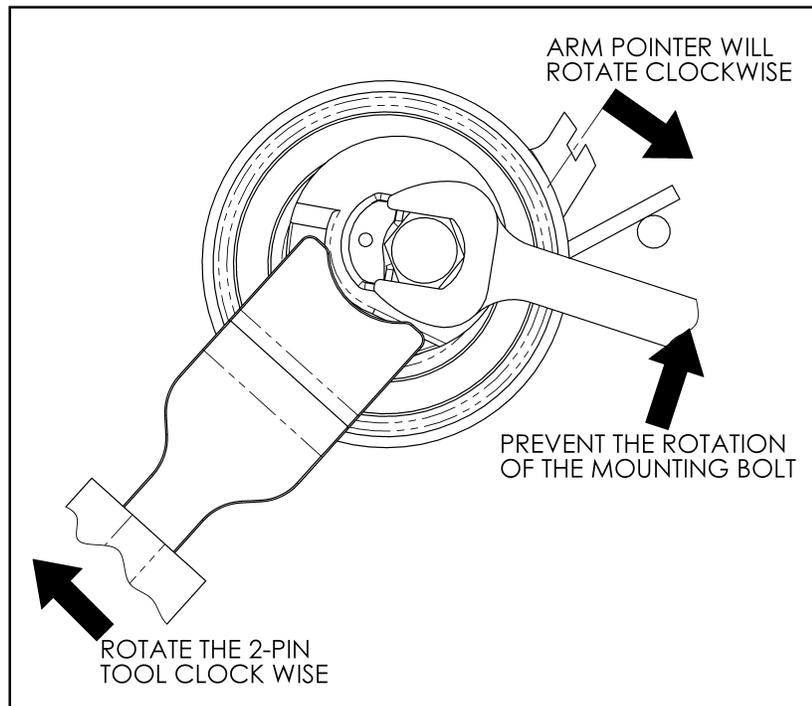
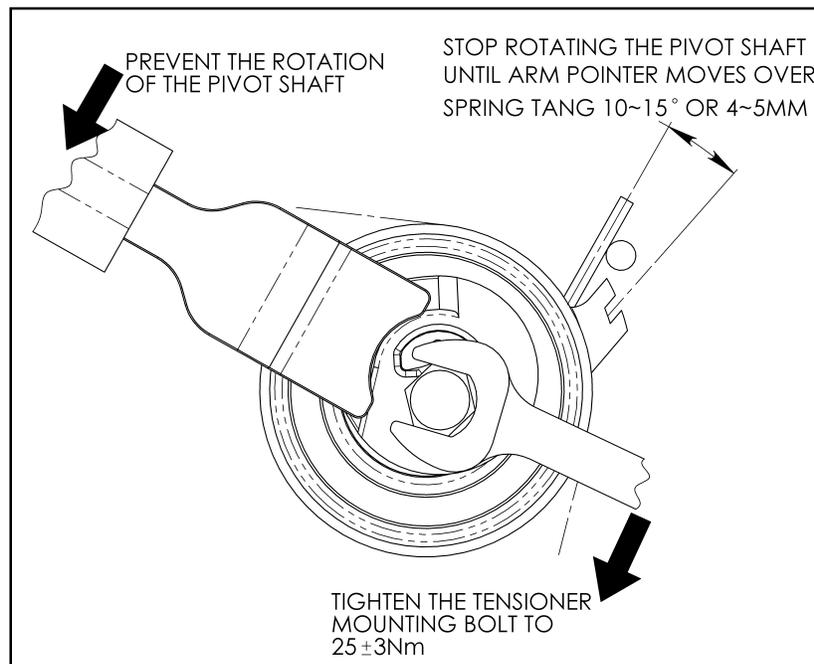

**Figure 2. Timing Belt Tensioner**
**Figure 3. Tensioner's initial setup**
7. Install the new tensioner (Fig. 2) on the engine and ensure it is seated on the mounting surface properly, and that the spring tang of the tensioner (Fig. 3) is against the dowel pin on the engine. Hand tighten (lightly) the mounting bolt.
9. Ensure the belt is tight between the sprockets. Rotate the tensioner away from the belt (Fig. 3) and engage the belt on the tensioner.